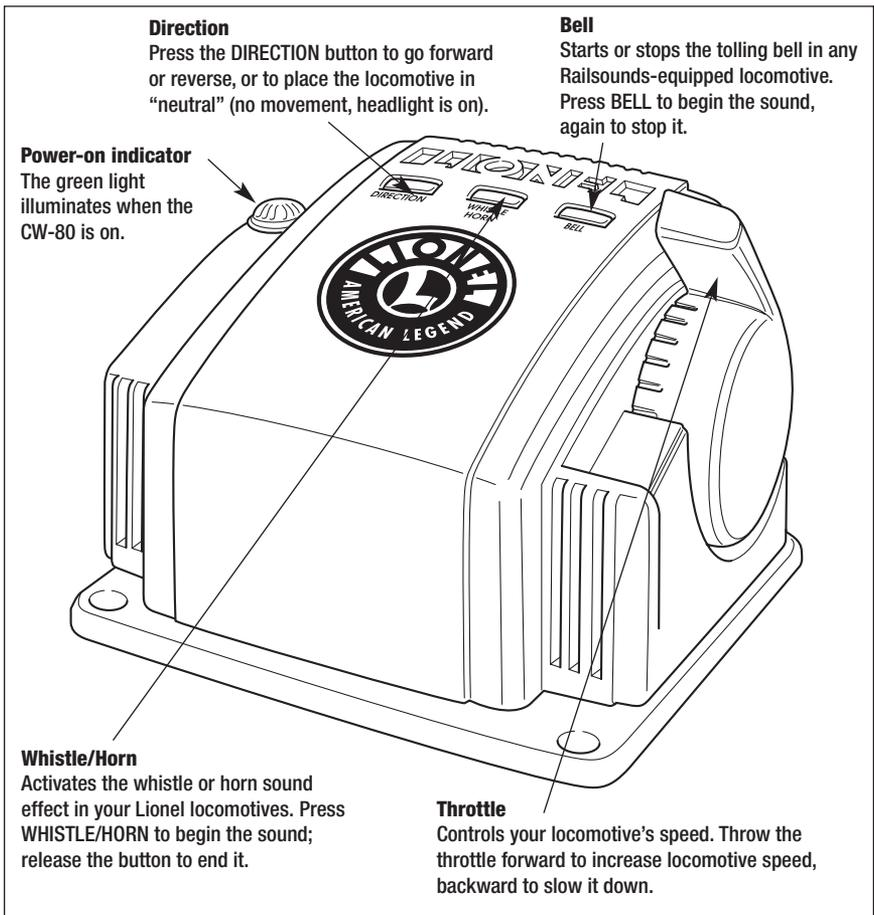

Figure 4. Transformer features
If you are using the Lionel FasTrack track system, you will find that the terminal section easily connects to the transformer's TRACK posts. Two wires are attached to the underside of the FasTrack terminal section (available separately, 6-12016). Attach the spade-shaped connectors at the ends of these wires to the CW-80 Transformer. Be sure that the connections are secure. Follow these steps and refer to Figure 4.
Refer to Figure 4 on page 8 for the location of the Transformer features listed in this section.
2. Press and hold down the DIRECTION, WHISTLE/HORN, and BELL buttons on the Controller. Refer to Figure 4 for the location of these buttons.